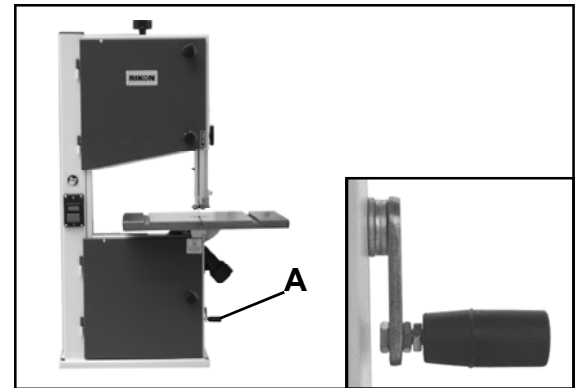

Fig. 06
Attach the crank handle (A) to the belt tension crank arm with the M6 x 55 slotted head screw and two M6 nuts. (See Fig.06)